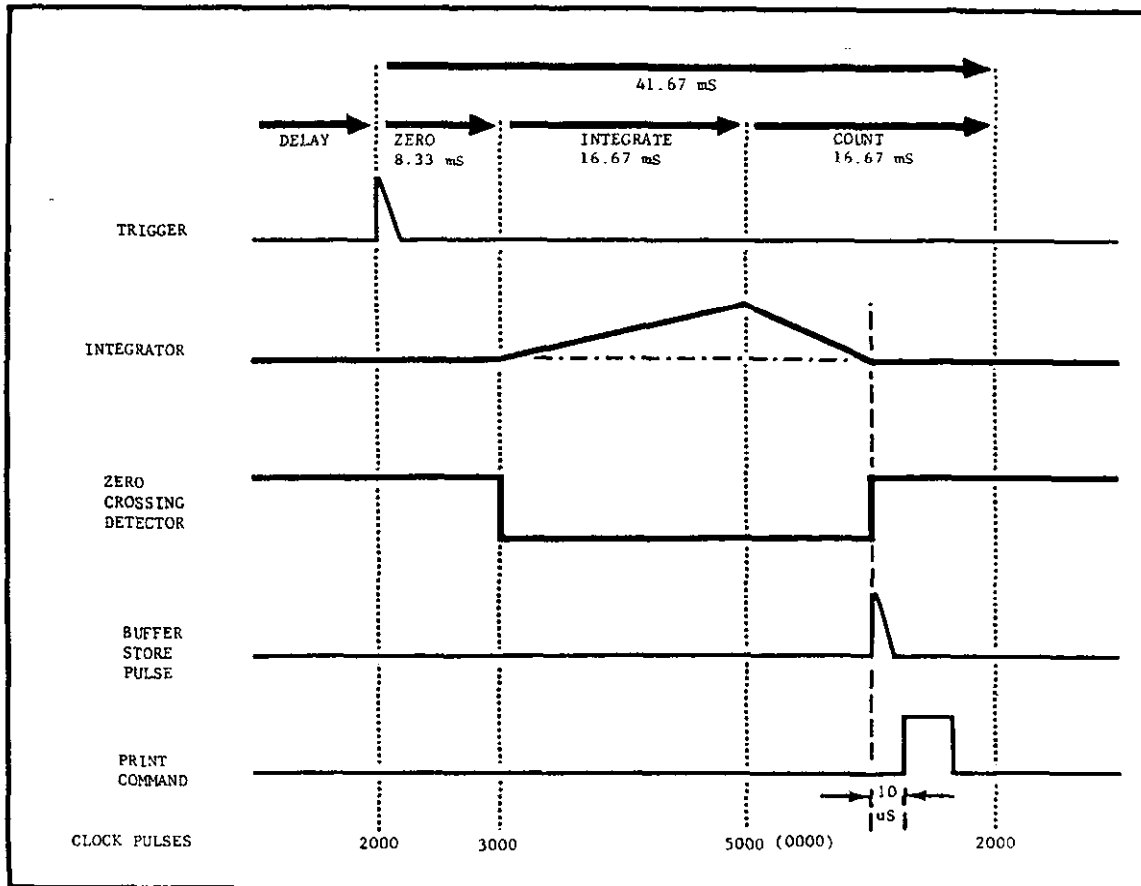
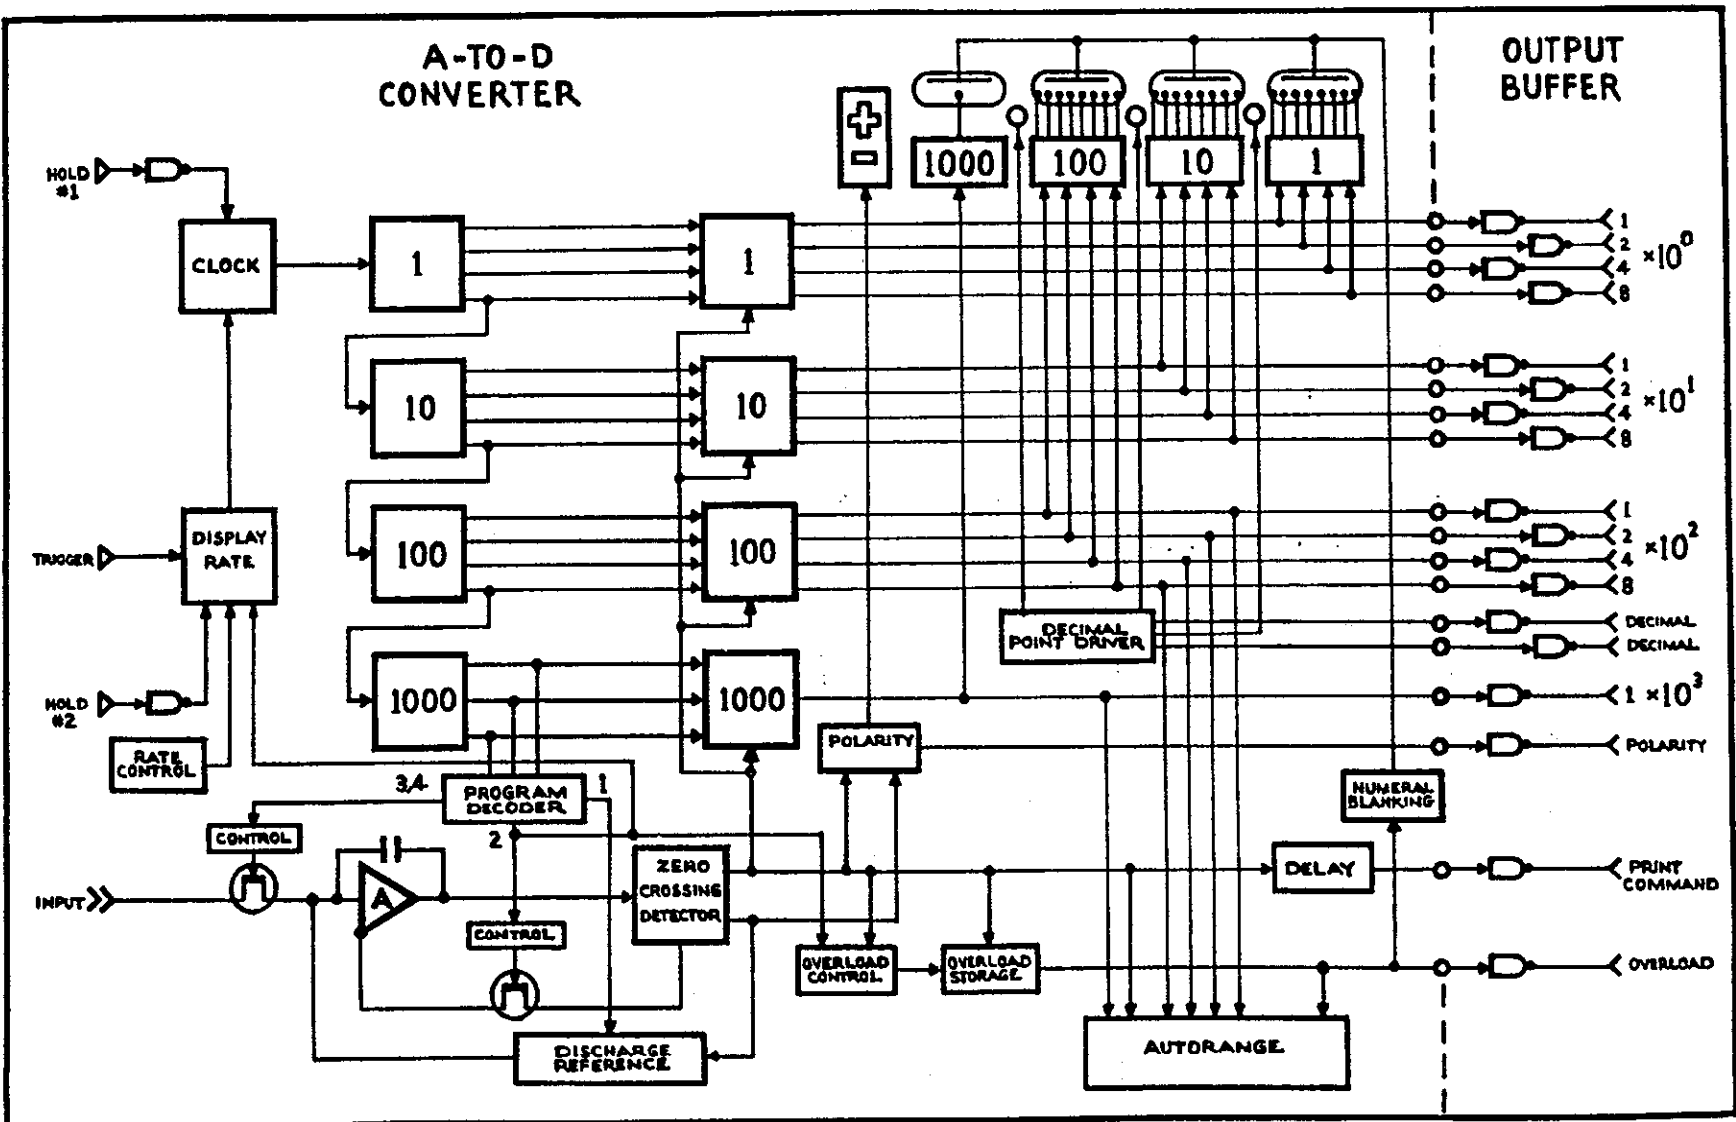

FIGURE 5. Timing Diagram.
FIGURE 10. Block Diagram of A/D Converter.
a. General. A detailed block diagram of the A/D converter is shown in Figure 10. The analog-to-digital converter operates using a dual slope integration technique which has inherent line frequency noise rejection. The analog signal is applied to the integrator for one complete line frequency cycle. The analog signal is then removed from the integrator input. The voltage on the integrator is then driven to zero to complete the voltage-to-time conversion. The time interval to reach a "Zero Crossing" is counted and displayed on the "Readout" in proportion to the original analog signal. The sequence is then repeated for a second reading. A Timing Diagram is shown in Figure 5.